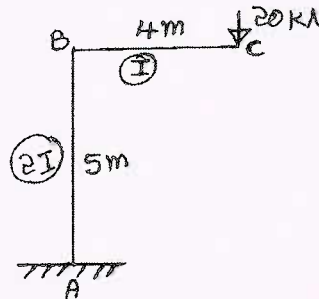

Fig.Q5(c)
c. Determine the vertical and horizontal deflection point C for the mill bent as shown in Fig.Q5(c) by unit load method. (09 Marks)